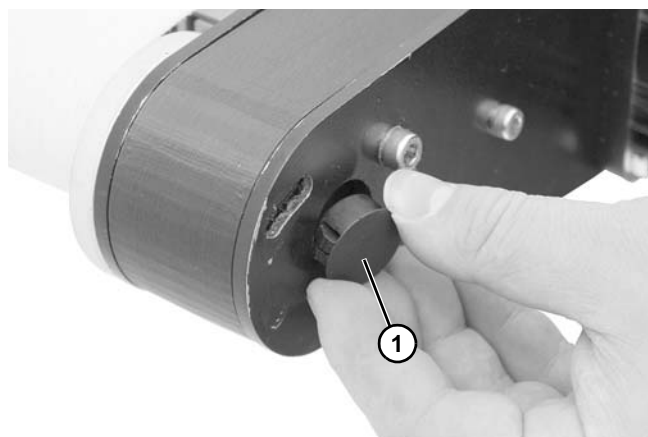

Figure 14
16. Install plug (Figure 14, item 1).